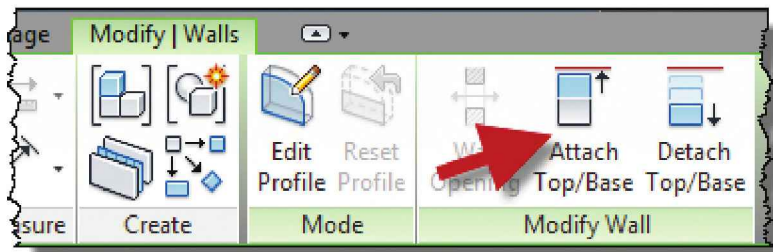

FIGURE 8-6.21 Ribbon with wall selected
69. Click the **Attach Top/Base** from the *Ribbon* (Figure 8-6.21).